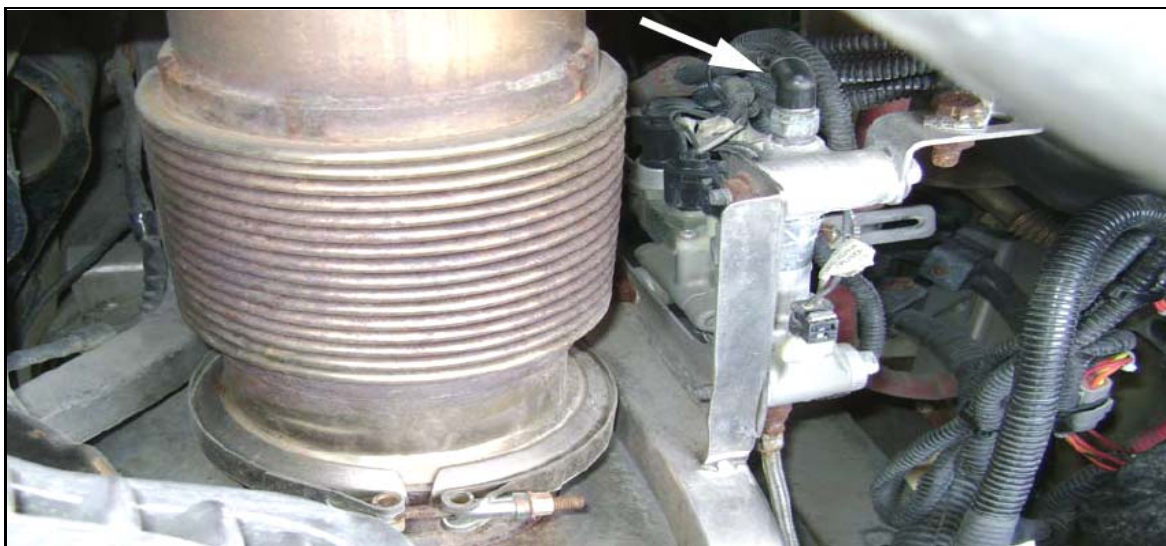

Figure 2.
7. Locate the 90 degree fitting on top of the dosing metering unit, directly above the DEF nozzle supply hose installed in Step 6 (refer to Figure 2)
8. Remove and discard the existing 90 degree fitting on top of the dosing metering unit (refer to Figure 2)